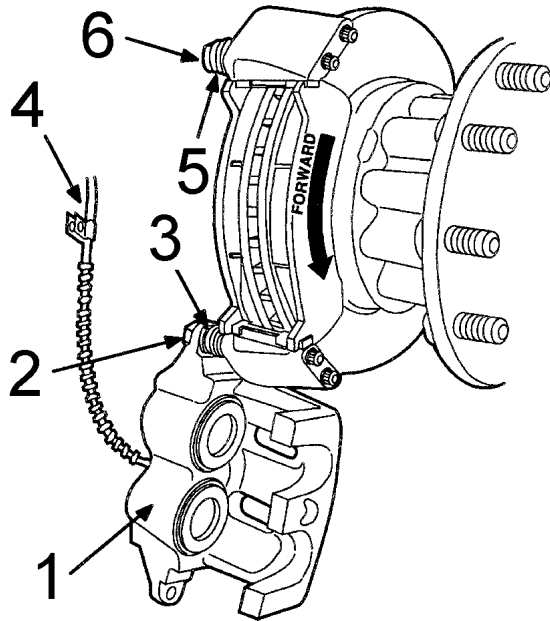

Figure 79 Rotate Caliper Closed About Lower Hex Mounting Bolt and Guide Pin
9. Carefully rotate the caliper (Item 1, Figure 79) closed about the lower (bottom) hex flanged mounting bolt and guide pin (Items 2 and 3, Figure 79). Refer to DISC BRAKE PADS, Install (See DISC BRAKE PADS, page 15).